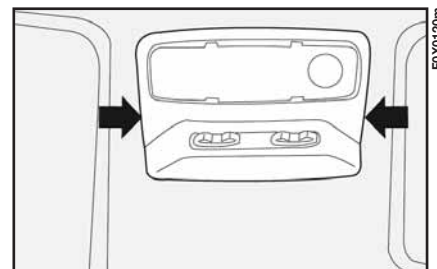

fig. 140
- using a screwdriver at the points indicated by the arrows fig. 140 remove the entire roof light unit;